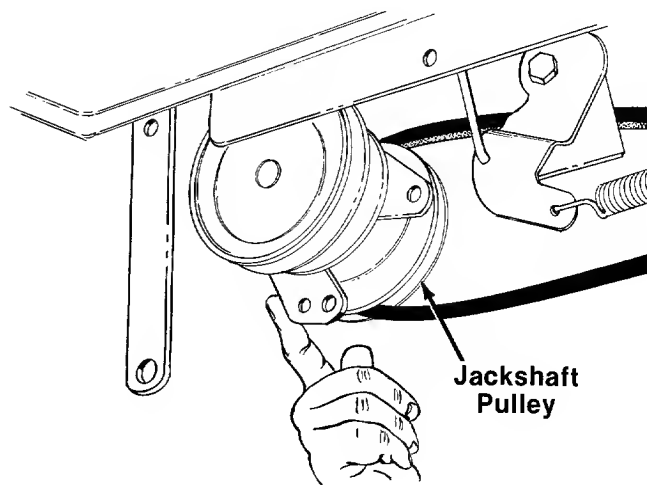

**FIGURE 17.**
4. Pull idler pulley down, and remove the belt. See figure 17.